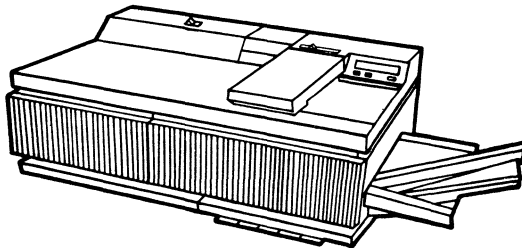

Figure 1-1 4045 Laser CP
VP Local Laser Printing is a software application package which, together with Xerox 4045 Laser Copier/Printer (CP), the 6085 Professional Computer System and Local Printer Option kit, comprises the Documenter system. The Laser CP (Figure 1-1) prints text and graphics with a high quality resolution of 300 by 300 spots per inch. Documents print quietly at a speed of up to 10 pages per minute on a variety of paper sizes and special papers, including transparencies, labels, and envelopes. Printing occurs as a background process, enabling you to continue with other desktop activities. VP Local Laser Printing software can be loaded at a networked, remote, or standalone 6085 Professional Computer System. The Laser CP's compact size and attractive design complement your office. When equipped with the optional copier feature, the Laser CP demonstrates true productivity by providing quick copies.